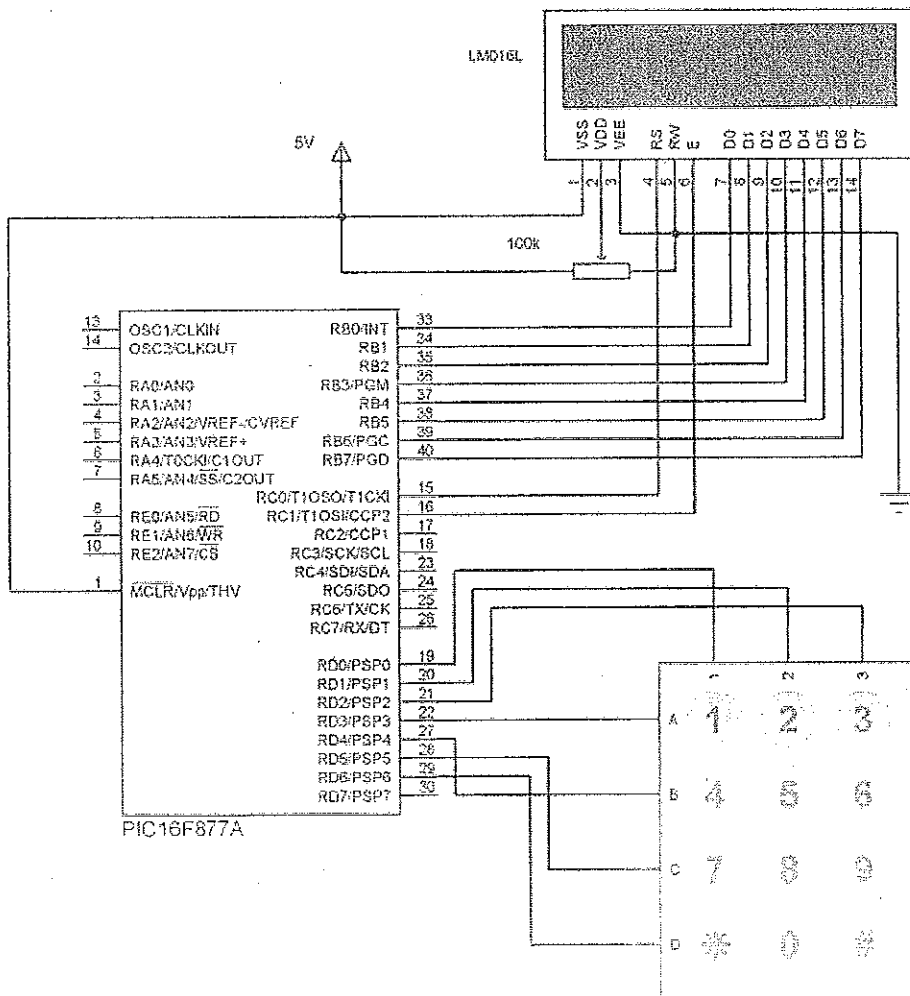

Figure 5(b)
- (b) Refer to Figure 5(b), the LCD requires THREE (3) "Control" lines from the microcontroller, namely Enable (E), Read/Write (R/W) and Register select (RS). Describe the function of each of the line. (6 marks)